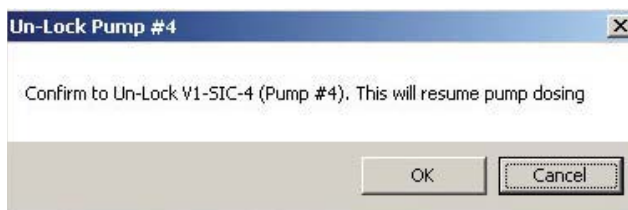

Figure 4.56. Unlock Pump confirmation pop-up.
4. The lock function is a toggle. Click the icon again to unlock the pump. Another confirmation pop-up screen will display (Figure 4.56).